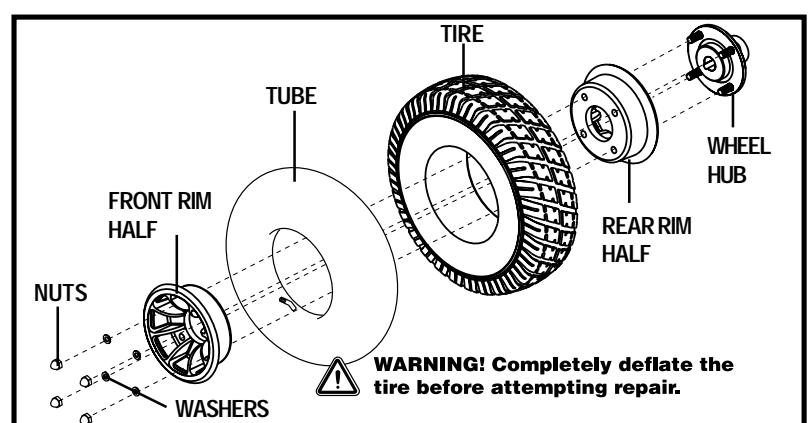

Figure 33. Jazzy 1107 Drive Wheel Disassembled
6. Remove the nuts and washers from the wheel hub and separate the front and rear rim. See figure 33.